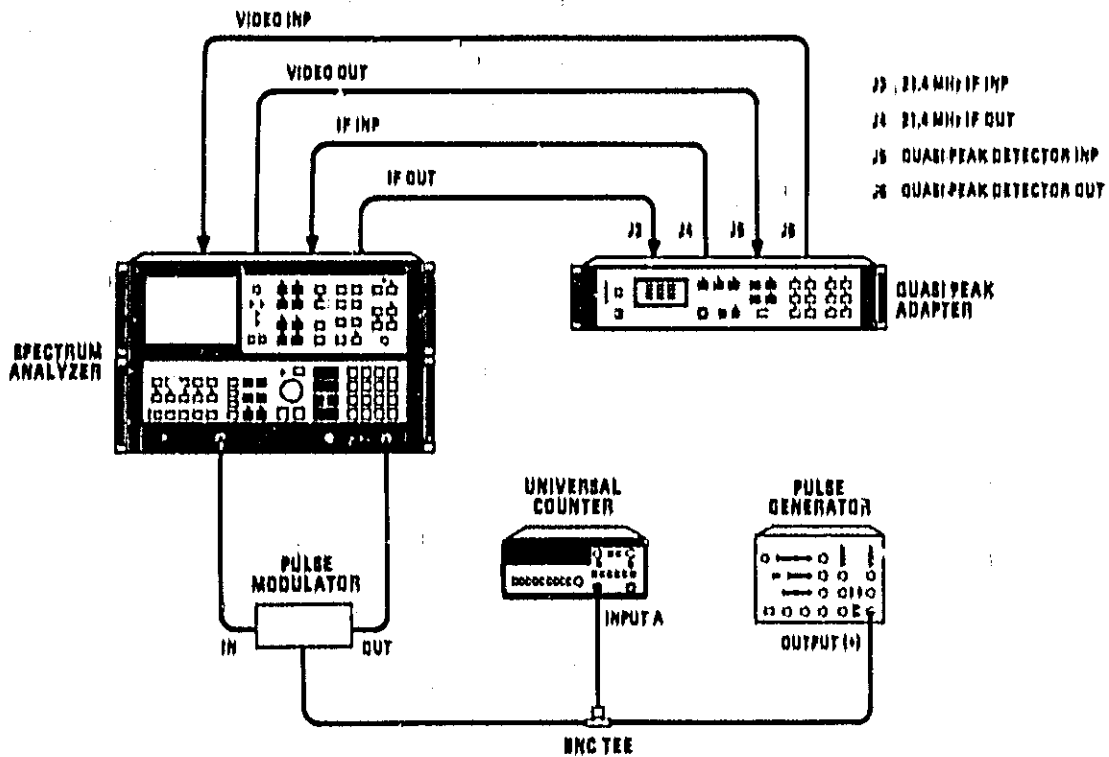

Figure 4-6. 120-kHz Pulse Test Setup
1. Connect equipment as shown in Figure 4-6.